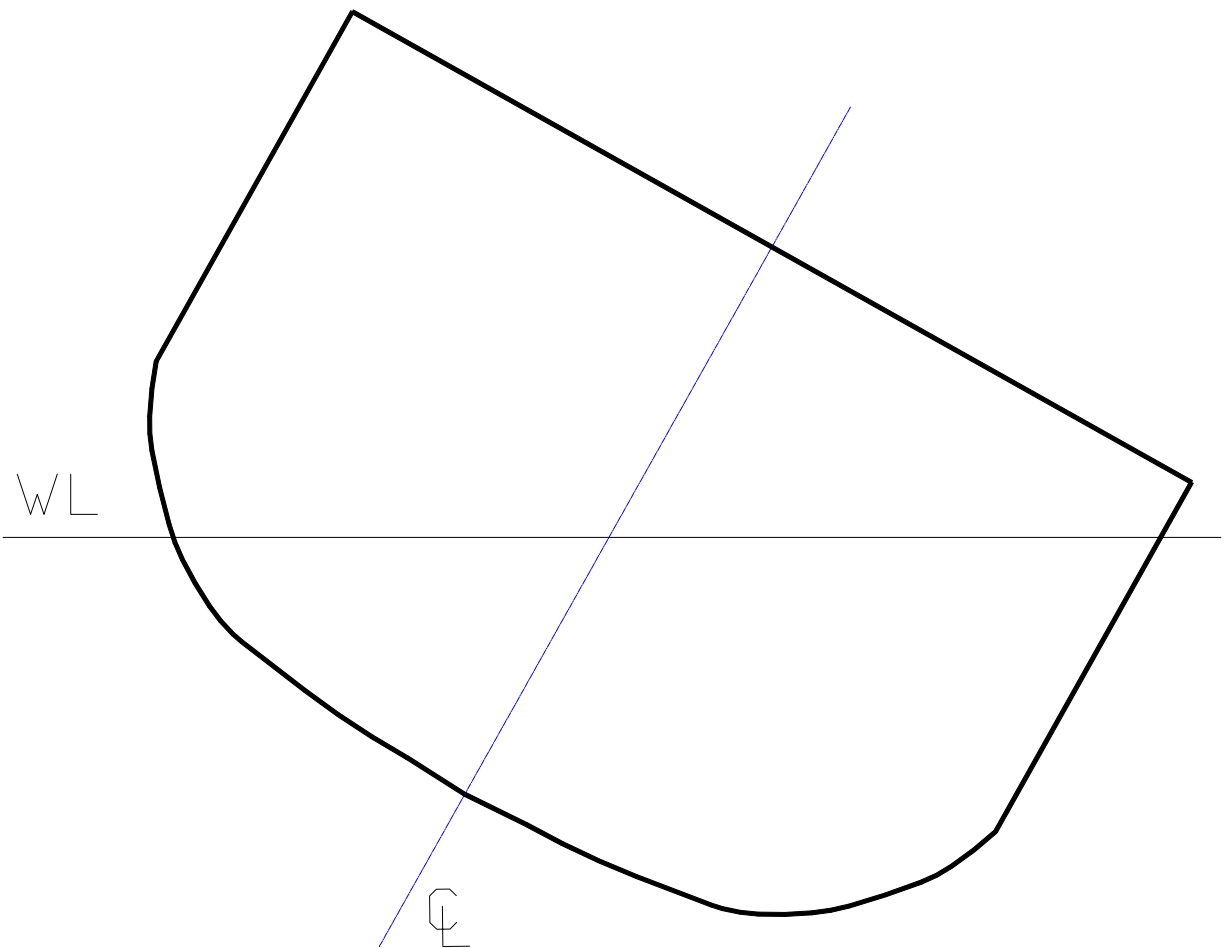

Figure 6 - The Heeling Ship with a Vertical Shift in G
Show that you understand the derivation of this equation by completing the diagram of the heeling ship at Figure 6. The diagram should include the center of buoyancy (B), the new and old centers of gravity (G_0 & G_1), the new and old righting arms (G_0Z_0 & G_1Z_1), the angle of heel (ϕ), the displacement (Δ_S) and the buoyant force (F_B).
Show that you understand the derivation of this equation by completing the diagram of the heeling ship at Figure 6. The diagram should include the center of buoyancy (B), the new and old centers of gravity (G_0 & G_1), the new and old righting arms ($G_0 Z_0$ & $G_1 Z_1$), the angle of heel (ϕ), the displacement (Δ_S) and the buoyant force (F_B).